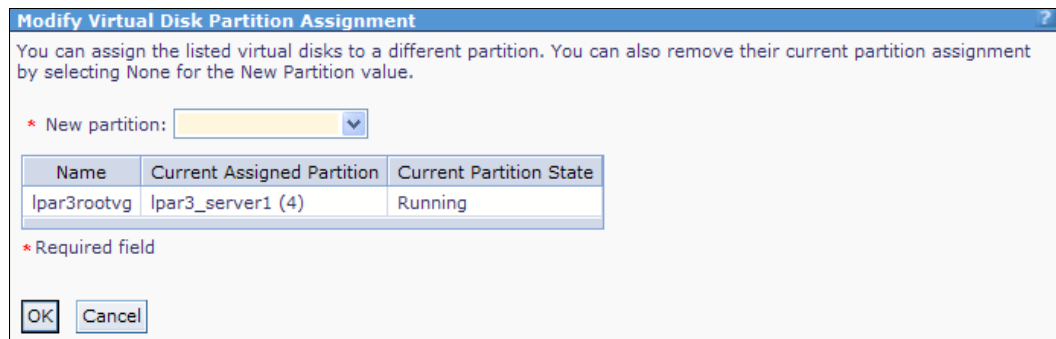

Figure 4-15 Current virtual disk assignment
- Figure 4-15 shows the Modify Virtual Disk Partition Assignment window in the work area. A table shows the current assignment for the selected virtual disk and its current partition state. If the virtual disk is already assigned to another partition, ensure that this virtual disk is not being used.